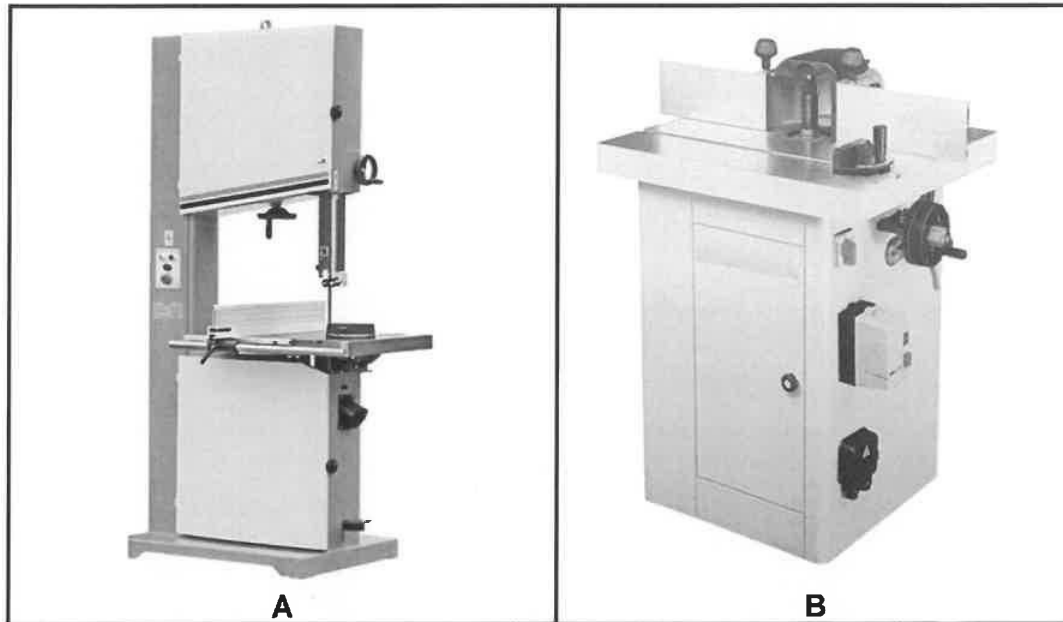

FIGURE 4.2
4.2 FIGURE 4.2 below shows different woodworking machines.